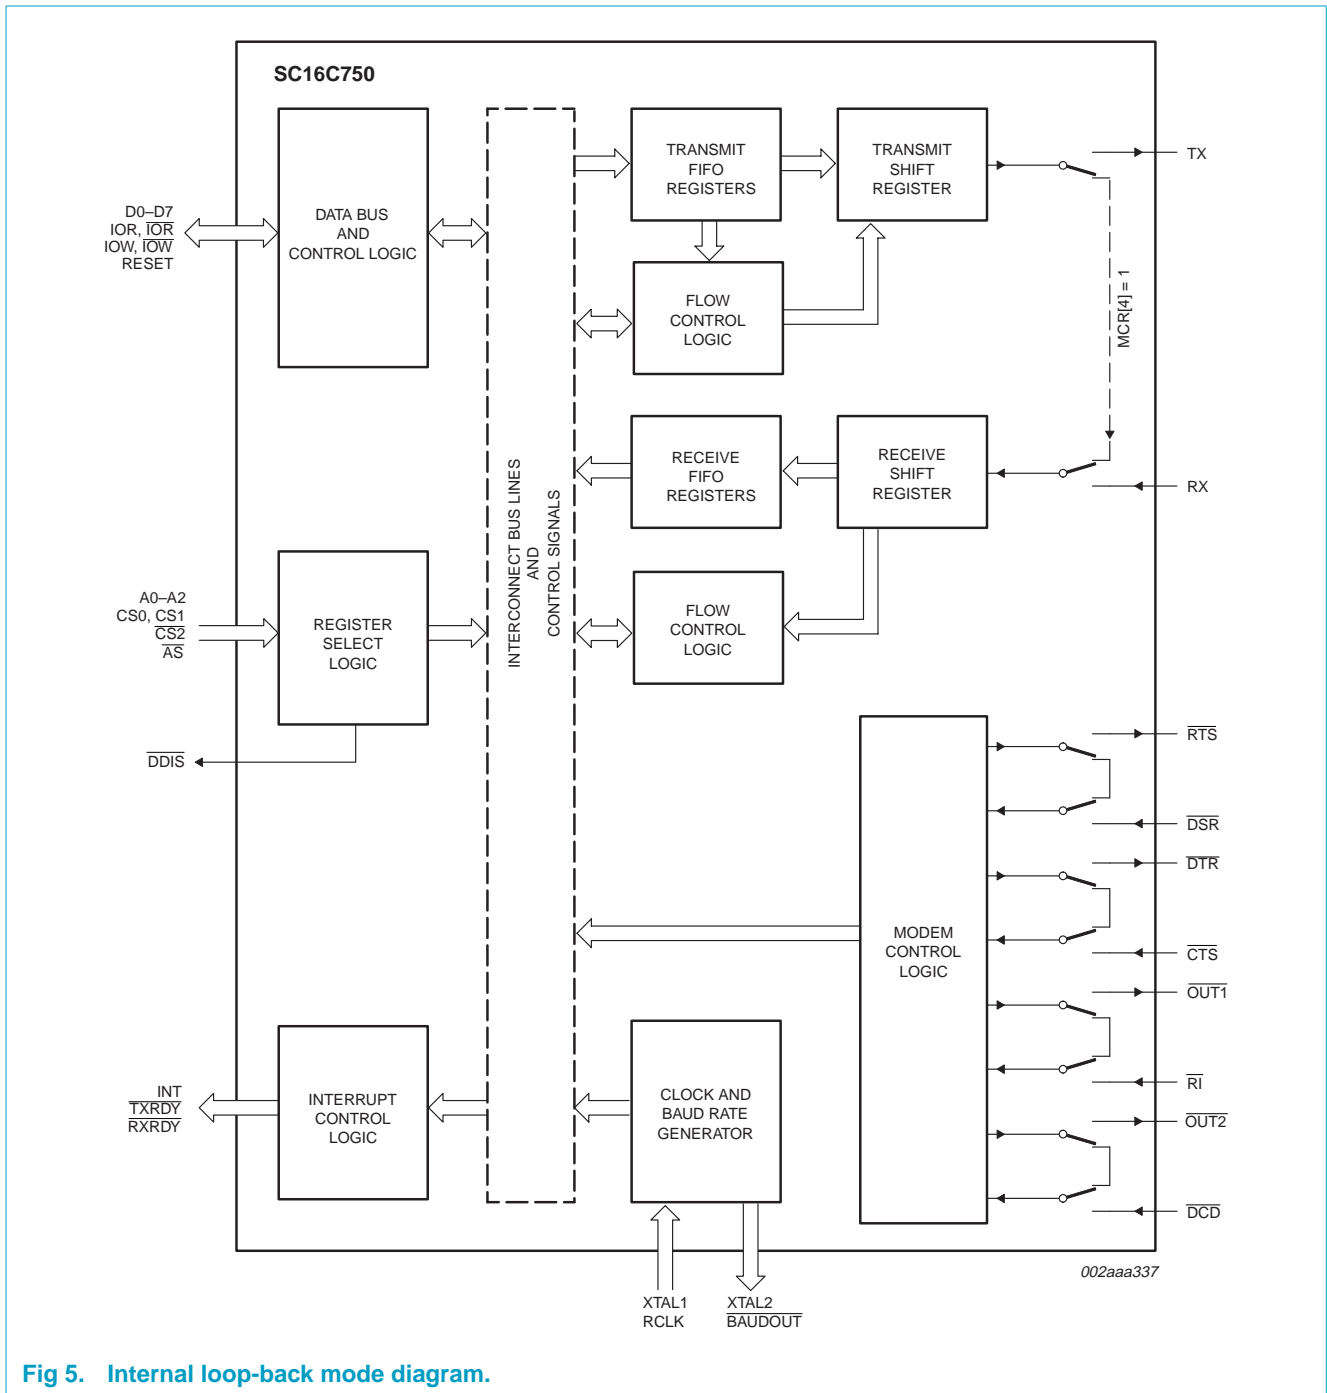

Fig 5. Internal loop-back mode diagram.
The internal loop-back capability allows on-board diagnostics. In the loop-back mode, the normal modem interface pins are disconnected and reconfigured for loop-back internally. MCR[0-3] register bits are used for controlling loop-back diagnostic testing. In the loop-back mode, OUT1 and OUT2 in the MCR register (bits 2-3) control the modem  $\overline{RI}$  and  $\overline{DCD}$  inputs, respectively. MCR signals  $\overline{DTR}$  and  $\overline{RTS}$  (bits 0-1) are used to control the modem CTS and  $\overline{DSR}$  inputs, respectively. The transmitter output (TX) and the receiver input (RX) are disconnected from their associated interface pins, and instead are connected together internally (see Figure 5). The CTS,  $\overline{DSR}$ ,  $\overline{DCD}$ , and  $\overline{RI}$  are disconnected from their normal modem control input pins, and instead are connected internally to  $\overline{DTR}$ ,  $\overline{RTS}$ , OUT1 and OUT2. Loop-back test data is entered into the transmit holding register via the user data bus interface, D0-D7. The transmit UART serializes the data and passes the serial data to the receive UART via the internal loop-back connection. The receive UART converts the serial data back into parallel data that is then made available at the user data interface D0-D7. The user optionally compares the received data to the initial transmitted data for verifying error-free operation of the UART TX/RX circuits.